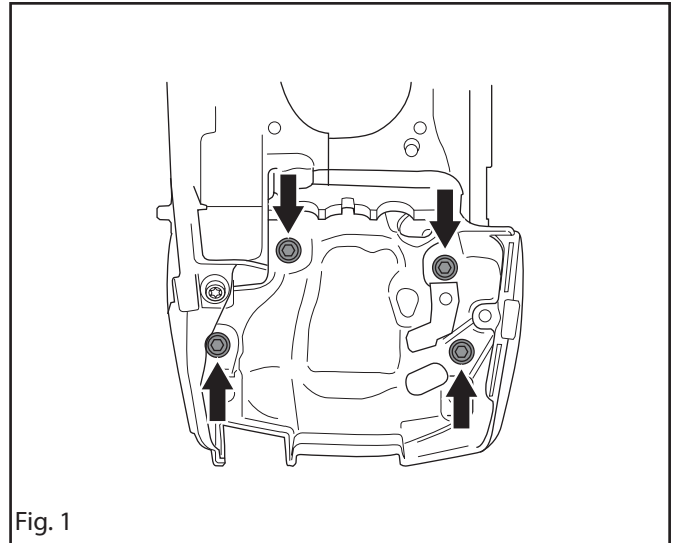

Fig. 1
1. Remove the carburettor area base by unscrewing the four screws. See figure 1.